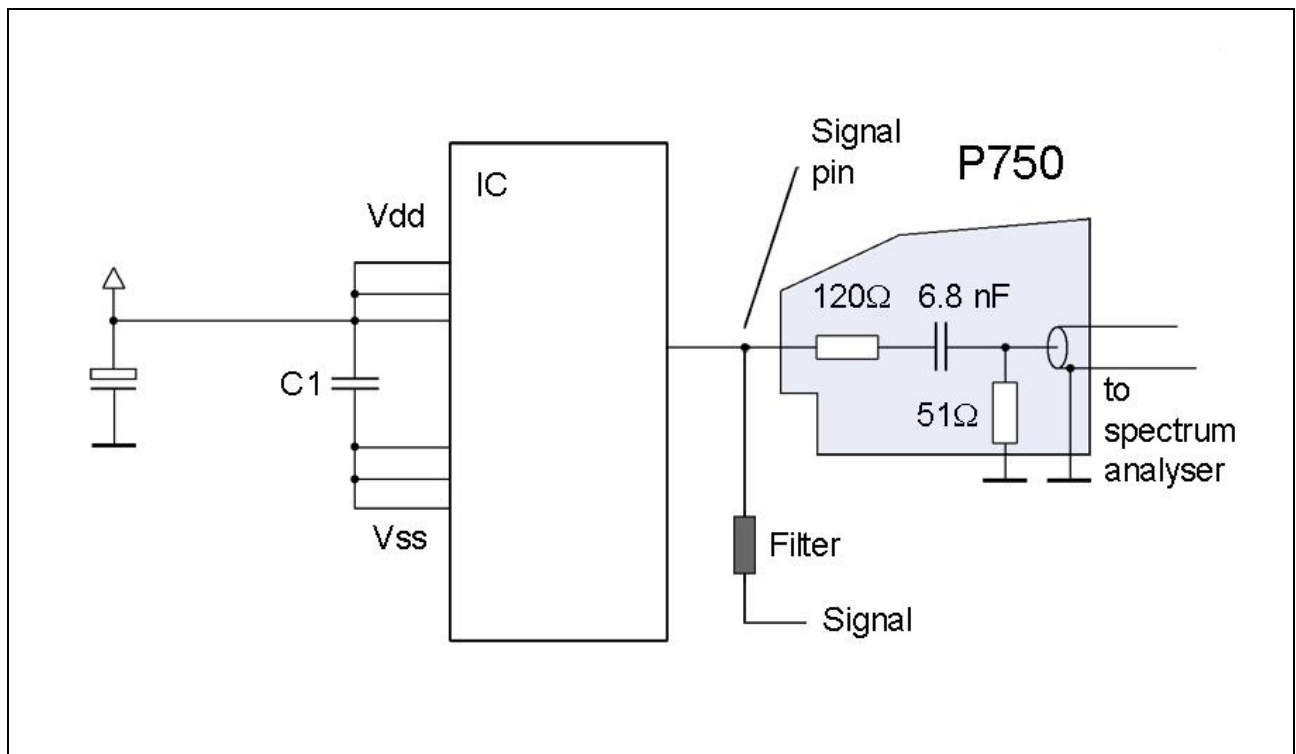

Figure 5 P750, voltage measurement on a signal pin while this is in operation.
4. Voltage measurement (**P750**) on a signal pin while this is in operation, **Figure 5**